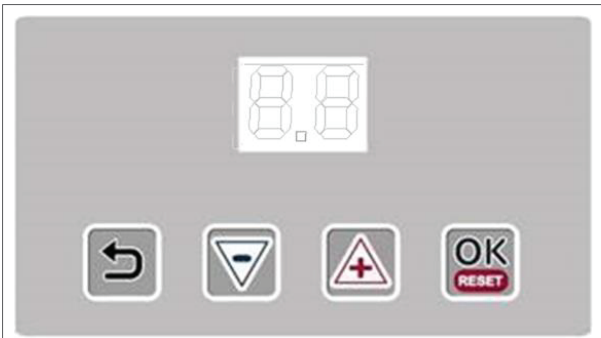

Figure 22 - Using the display
1. Press and hold the **Return** and (–) button for a few seconds (figure 22). The display will alternate between Lo and St. This means the heater will start up in Low fire.
2. Press the (+) and (–) buttons to toggle between Low and High fire (figure 22).